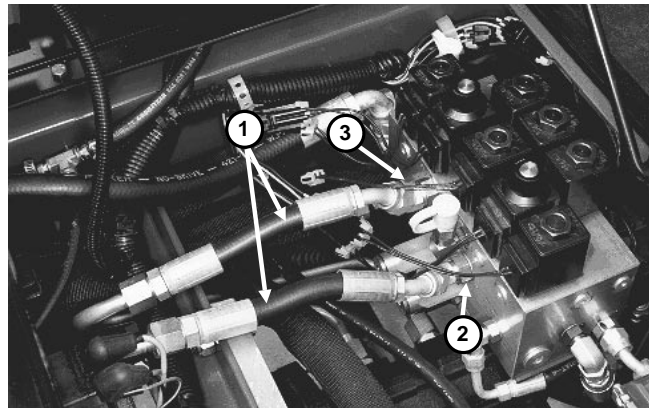

Figure 21
3. With the engine off and cutting units lowered, install tester in series between pressure hose and valve block fitting for suspected bad pump section (Fig. 21). Make sure the tester flow control valve is OPEN.